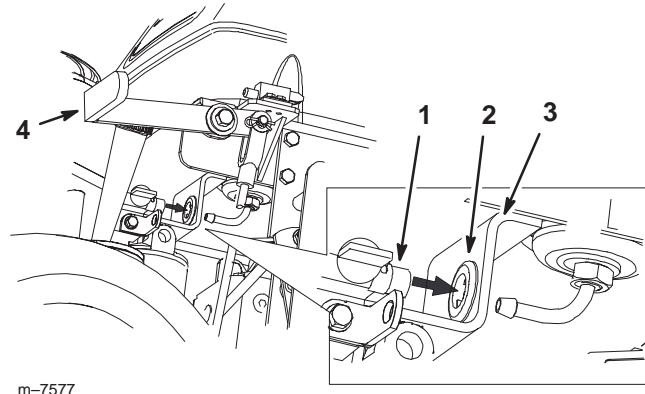

Figure 5
- Push the fuel line through the grommet and hole in the hydraulic oil filter bracket (Fig. 5).